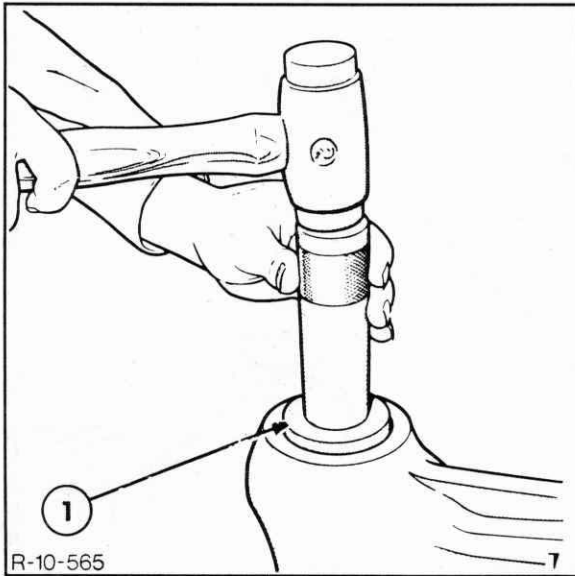

Figure 7-99
1. Drive in new bearing outer race to the upper and lower locations on the ends of the axle center casing using a suitable driver, Figure 7-99.